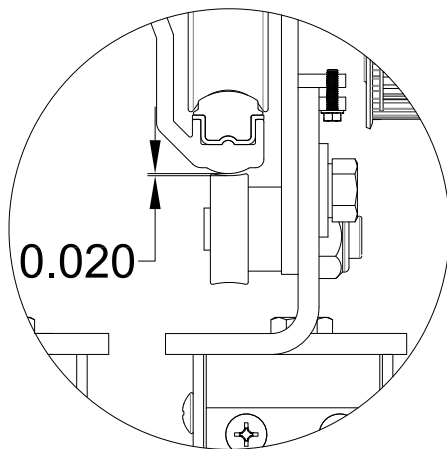

Figure 19A : Adjusting Jump Roller Clearance
6. Adjust Jump Roller to have approximately 0.020" gap from underside of rail (Figure 19A).